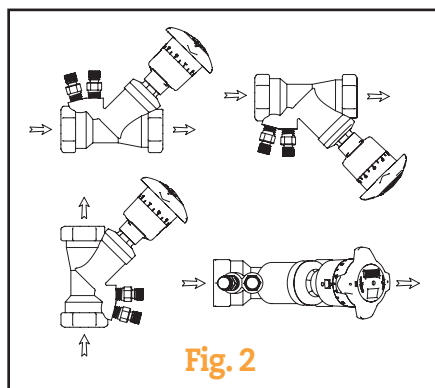

Fig. 2
**5** GBV's may be installed in horizontal or vertical piping (as illustrated in Fig. 2). Provisions must be made for easy access to the probe metering ports (P.M.P.'s), reading scale, and memory stop.